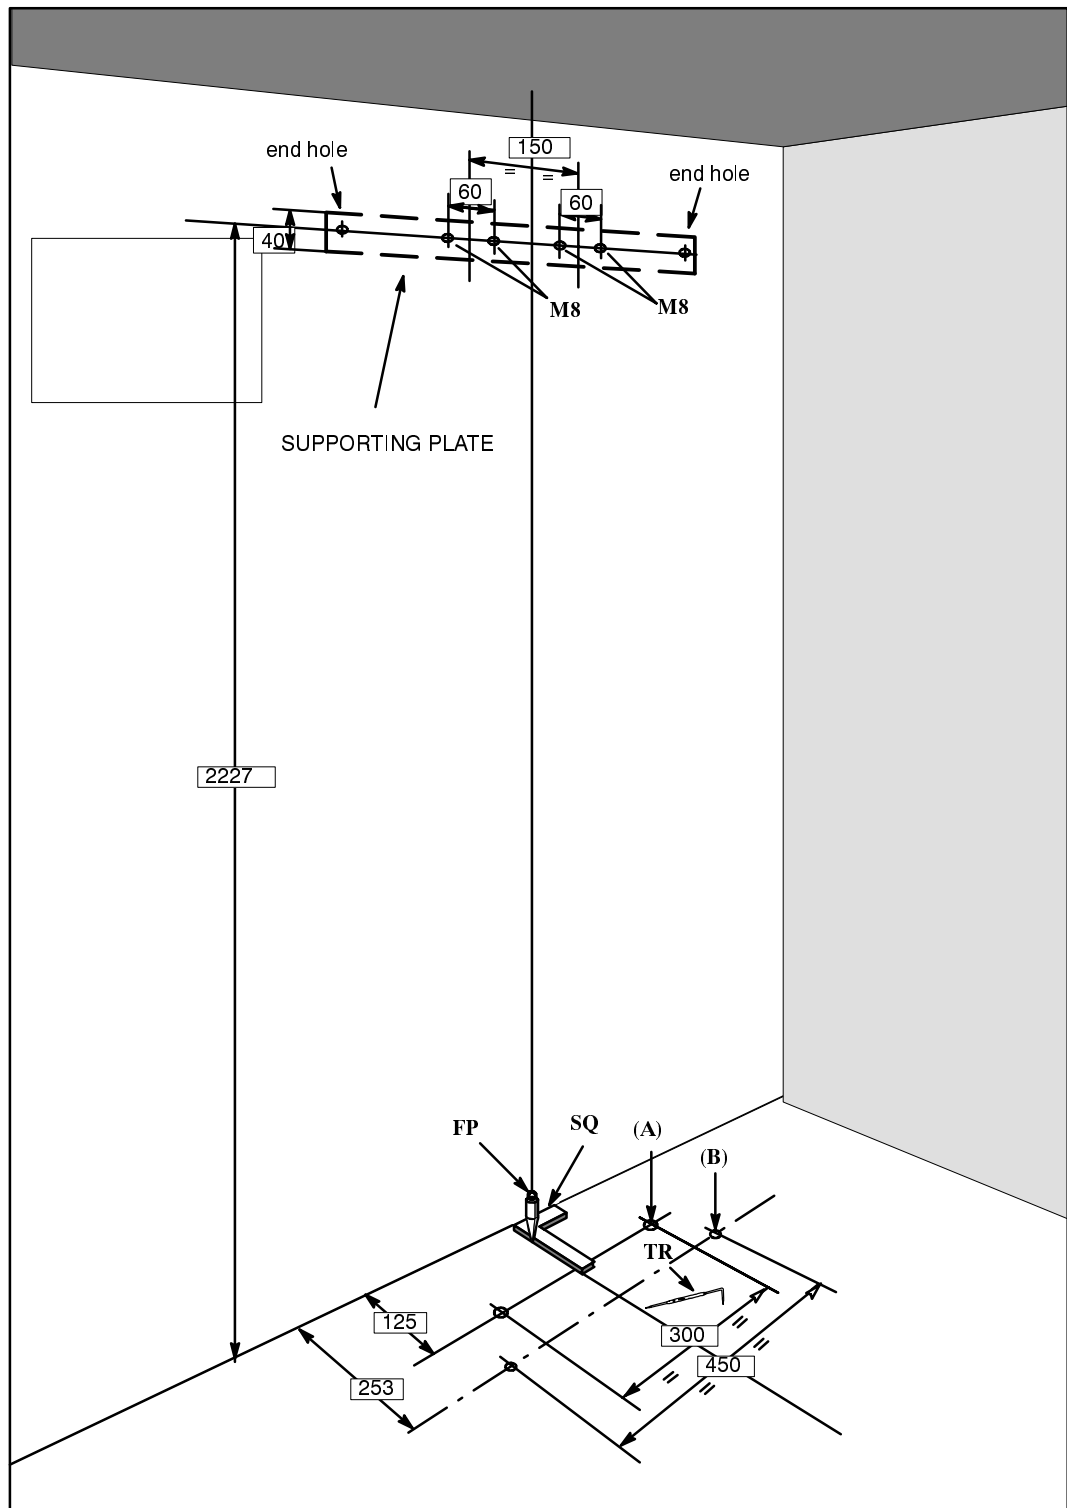

Fig. CC-5 Rack wall mounting – location of holes
- *for fastening fixing plates to wall (not supplied) (Fig. CC-5)*
1. Locate and mark the position on the wall for the two holes for the expanders which will fasten the supporting plate in position at 2227mm above the floor level (*Fig. CC-5*).
4. Using the plumb line and the square locate and mark on the floor the positions for the fixing holes 'A' for the rack base and 'B' for the alignment bar, if required (*Fig. CC-5*).
1. Using the plumb line and the square locate and mark on the floor the positions of holes A for fixing the racks and holes B for installing the alignment bar, if required (Fig. CC-5).